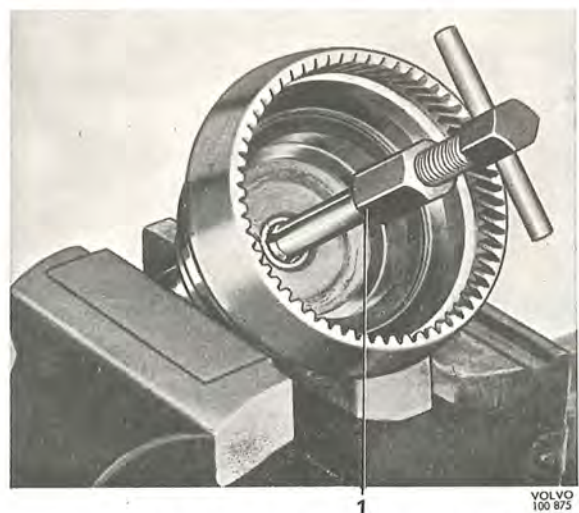

Fig. 4-48. Removing the bush, output shaft
4. Remove the circlip and the oil thrower, which hold the uni-directional clutch on the output shaft. Lift out the uni-directional clutch components. Remove the thrust washer. If necessary pull the bush on the output shaft out with puller SVO 2423, see Fig. 4-48.